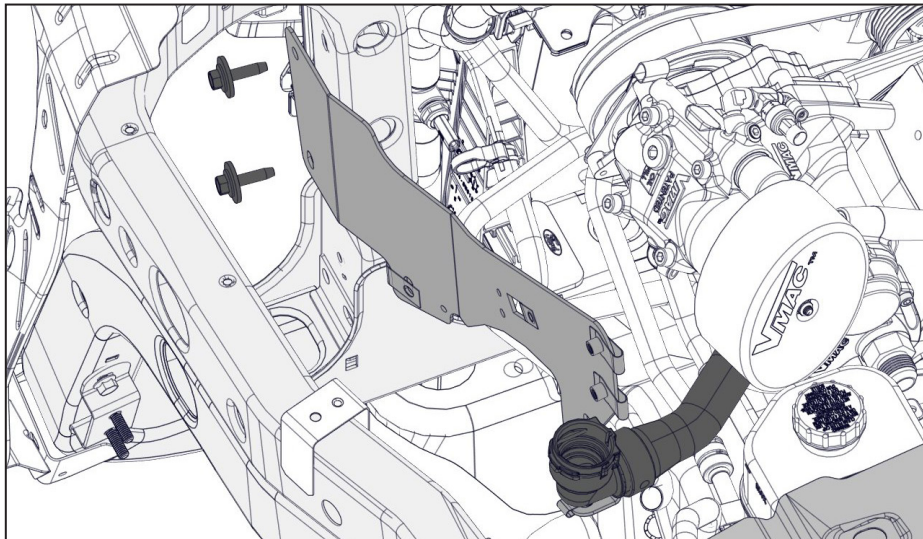

**Figure 78 — Installing the windshield washer bottle bracket**
- ☐ Using the OEM fastener, install the supplied windshield washer bottle bracket (Figure 78).